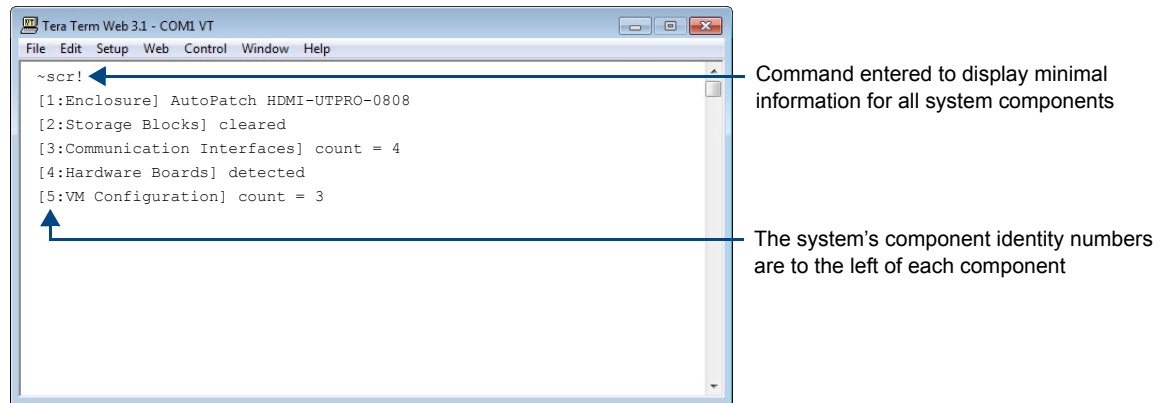

FIG. 69 Example of an HDMI UTPro splash screen
The splash screen can be accessed using a terminal emulation program (see page 39). One of four verbosity** settings is specified as a BCS command***, which provides either a list of the five system components with minimal information (FIG. 69) or a level of detailed information on one of the five components. Only one verbosity setting and one component setting can be entered in a command. The order in which the verbosity and component settings are entered is interchangeable.
- If both settings are omitted during a query (`~scr!`), the information displayed will be at the lowest verbosity level for all components (`v0i0`) (FIG. 69 on page 106).